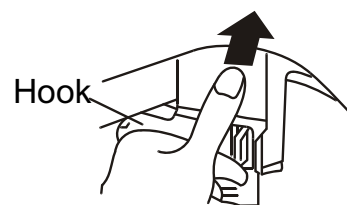

Figure 3
- (1). Install the corrugation pipe.
- (2). Insert the mounting plate at the bottom of the filter into the valve cover.
- (3). Hang up the hook at the left upper side.
- (4). Push the upper part in as indicated in Figure 3.